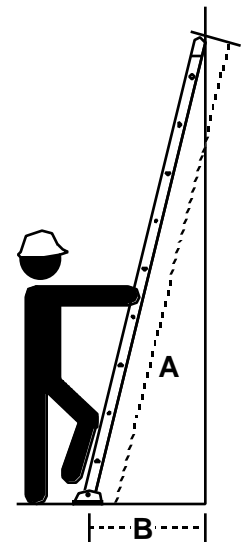

Figure 1. Proper slope
- On solid, level surfaces such as concrete floors, use ladders with nonslip feet. (See Figure 1.)
- Set the ladder at the angle as shown in Figure 1. Ladders placed at low angles are more likely to slip. (See Spotlight on Research on page 3.)
- When setting up, adjust the ladder to the proper slope of 75.5° (4:1). Using the ladder's label as a guide for measuring; set the feet one-quarter of the working length away from the wall (see Figure 1 on page 1).